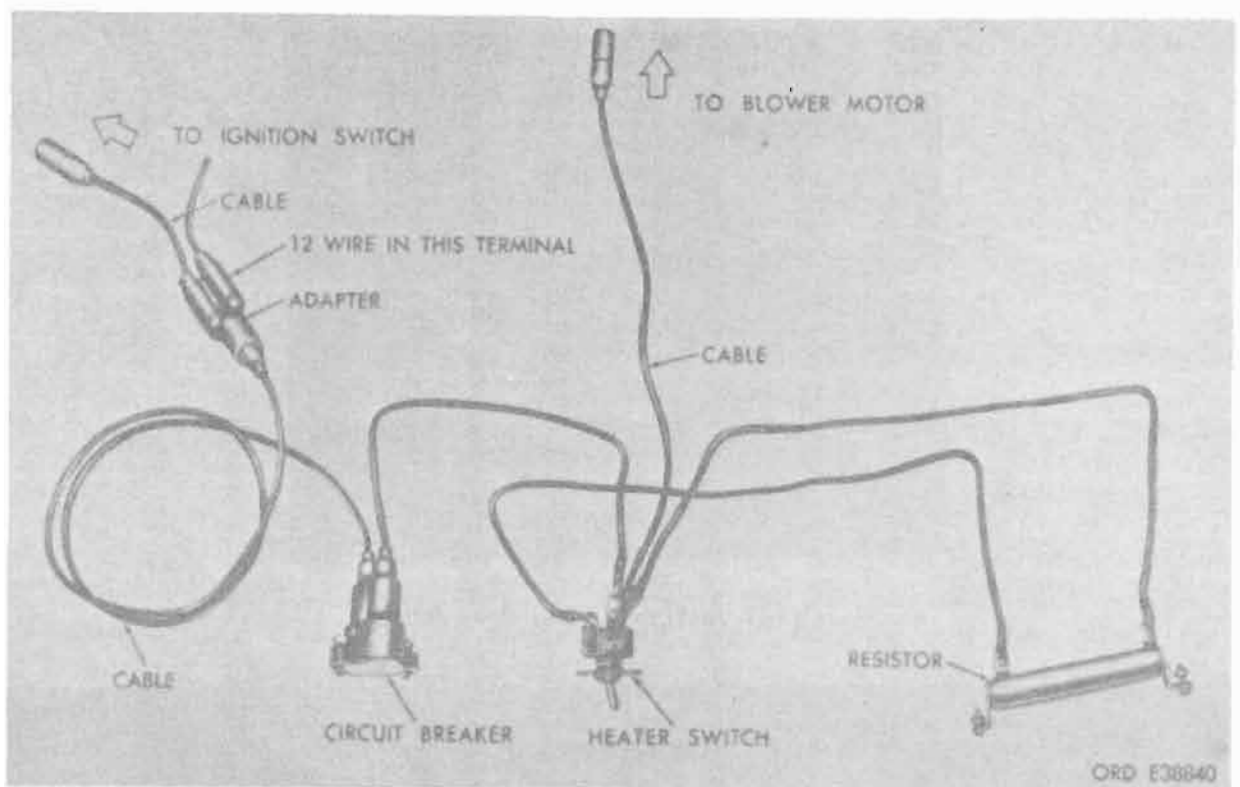

Figure 18-61. Circuit breaker, heater switch, resistor, and cables relative location.
d. Electrical System. A relative location view of the heater (—25° F.) electrical system is shown in figure 18-61.